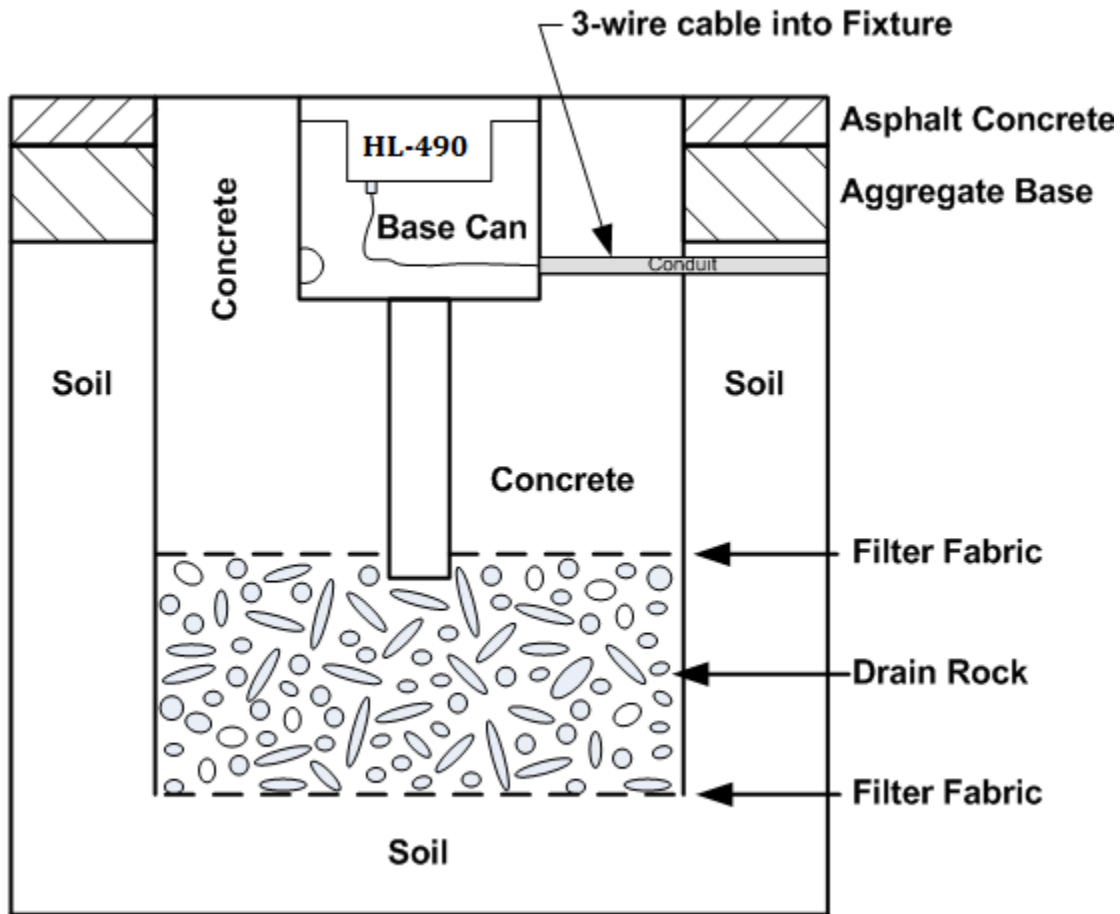

Figure 1
2. Proper drainage is critical for longevity of the fixture since water intrusion can destroy the electronics inside the fixture. The fixture is weatherproof and some water is expected to enter the base can, but provisions must be made to drain the water. Figure 1 outlines the suggested installation for proper drainage: